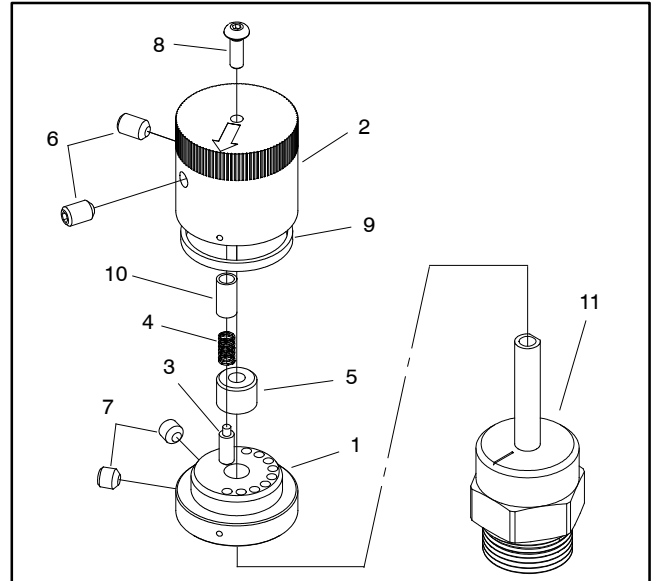

Figure 74
3. If flow control cartridge valve is being serviced, remove rotary handle from valve stem (Fig. 74):
- A. Loosen two (2) set screws that secure handle cap.
- D. Loosen two (2) set screws that secure handle base to flow control valve and remove base.
12. If flow control cartridge valve was removed, install rotary handle to valve stem (Fig. 74):
- A. Place handle base on flow control valve and position alignment mark on base with number 1 on manifold. Secure base with two (2) set screws. Apply a light coating of grease to chamfer on top of base to ease seal installation.
H. Make sure that alignment marks on cap and base are in line and that arrow on cap is pointing to number 1 on manifold. Tighten two (2) set screws to secure handle cap.